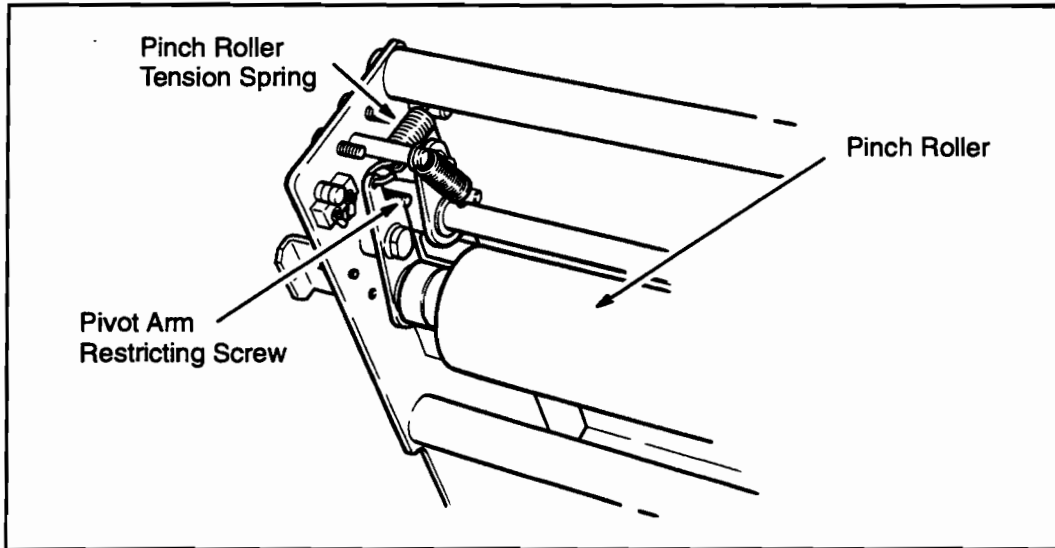
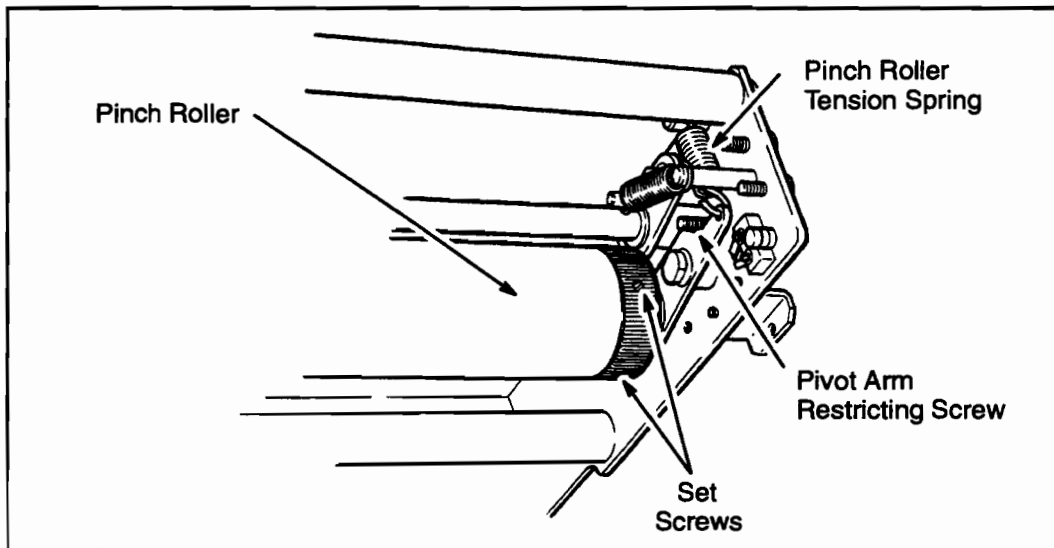

Figure 6-66. Left Tension Spring
Figure 6-67. Right Tension Spring
4. Loosen the left and right pivot arm restricting screws until their threads are clear of the pivot arm. See Figure 6-66 and Figure 6-67.
6. Using a combination spring tool or needle-nose pliers, carefully disconnect the left and right pinch roller tension springs located at the ends of the shaft pivot arms. See Figure 6-66 and Figure 6-67.
9. Using a 2 mm Allen wrench, loosen the two set screws that secure the pinch roller gear and remove the gear. See Figure 6-67.
4. Using a combination spring tool, remove the tension spring at each end of the feed roller shaft. See Figure 6-66 and Figure 6-67.